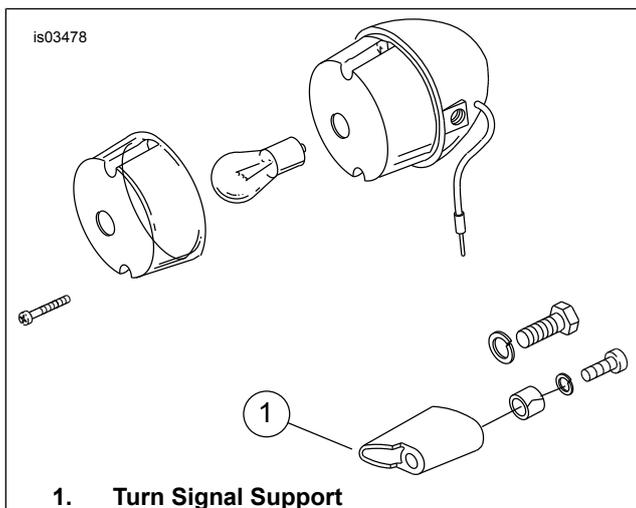

Figure 4. Softtail Rear Turn Signal (Typical Airfoil Style Support)
3. See Figure 4. Remove lamp housing from turn signal support, then remove support. Save hardware for installation. Discard support.